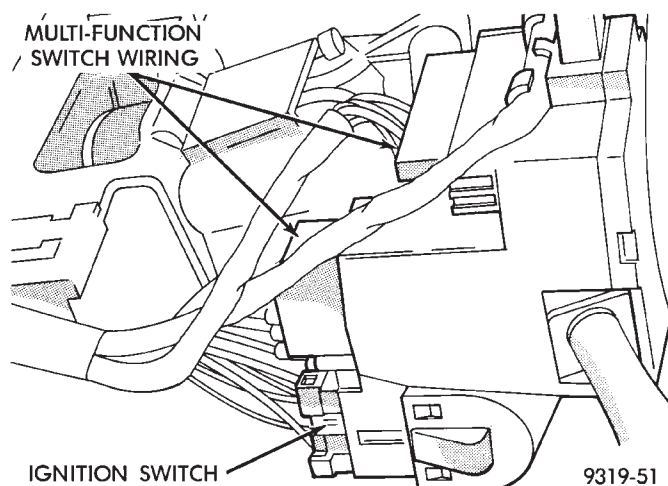
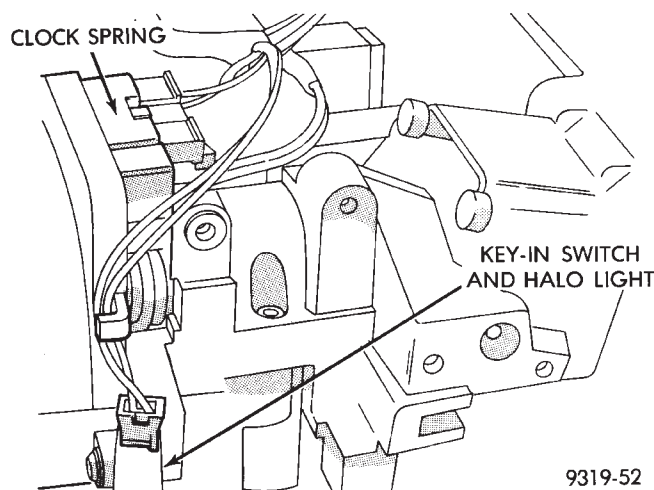

Fig. 29 Steering Column Assembly RemovedFrom Bracket
Fig. 30 Halo Light And Clock Spring WiringConnections
(32) Remove the steering column assembly from the mounting brackets and lay it on the floor of the vehicle (Fig. 29).
(33) Remove wiring harness connectors from the turn signal/multi- function switch and ignition switch (Fig. 29).
(34) Remove the wiring harness connectors from the halo light and clock spring (Fig. 30). Carefully remove the steering column clip from the lower steering column mounting bracket.
(35) Remove steering column assembly from the passenger compartment of the vehicle. Use care when removing steering column to avoid damaging the paint or interior trim.
(1) Ensure ground clip is installed on left capsule slot of the steering column upper mounting bracket. The plastic capsules should be pre-assembled in the bracket slots prior to installing steering column.
(2) Position steering column assembly on floor of vehicle. Install wiring harness trough on steering column. **Note: Yellow (paint marked) connector mates to air bag clock spring connector.** Connect vehicle wiring harness connectors to turn signal/multi function switch, ignition switch, halo light and clock spring (Fig. 29) and (Fig. 30). **Be sure to route wiring through clips on multi function switch and on side of clock spring. Be sure wiring is taut and free of interference with column shifter assembly actuator in low gear.**